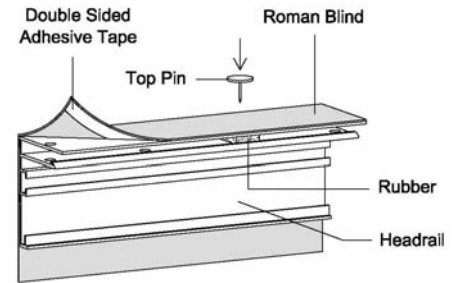

Figure 13
1. Attach a roman blind to the headrail, either to the front of the headrail with velcro tape or to the top of the headrail with double sided adhesive tape and top pins spaced about 300mm apart (Refer to Figure 13 for top attachment). Then thread cords through the rings and knot cords around the bottom rings of the blind.